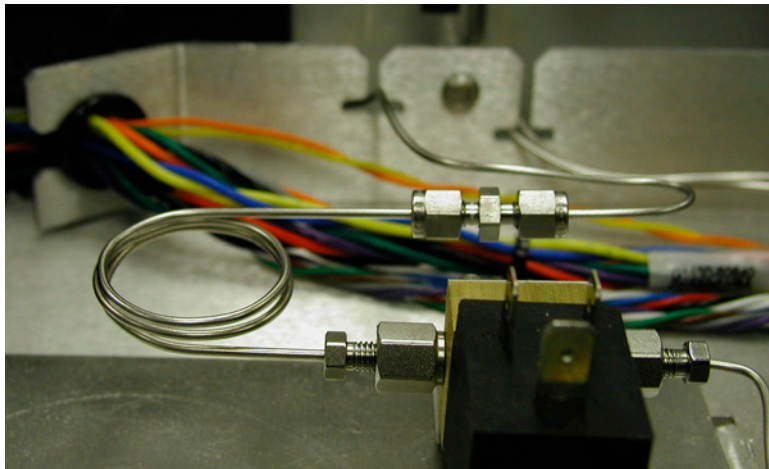

Figure 11 Pneumatics Control Module
- **To supply the switching gas from a Pneumatics Control Module (PCM):** Connect one of the 100 cm coiled lengths of tubing to port **2** of the solenoid valve (see Figure 11). Connect the stainless steel union to the other end.